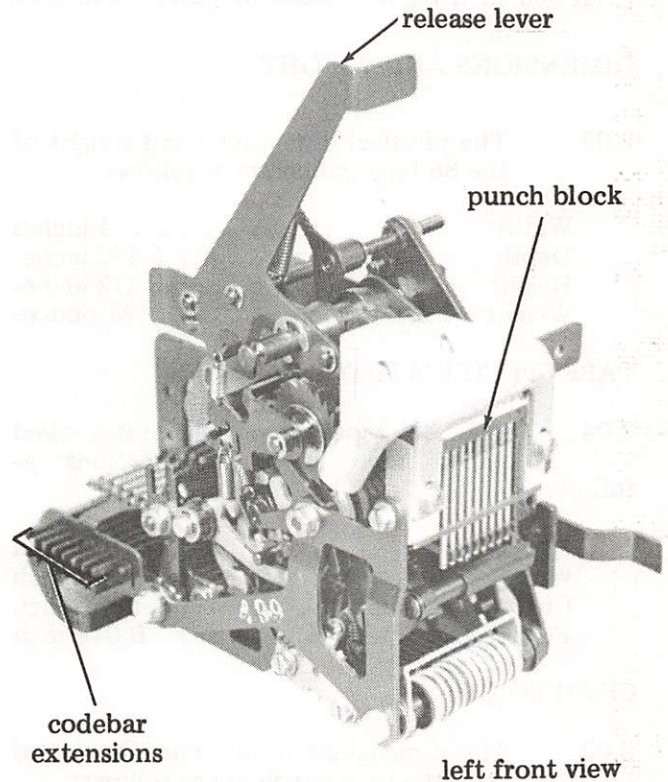

Figure 1 - 38 Tape Punch
1.01 This section provides the description and principles of operation for the 38 tape punch (Figure 1). The 38 tape punch is an 8-level device which perforates paper tape accord-